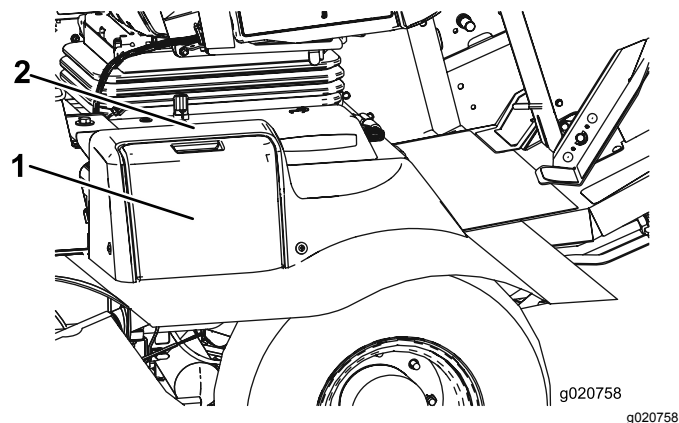

Figure 59
1. Open the battery cover on the side of the shroud (Figure 59).
**Note:** Press down on the flat surface above the battery cover to ease the removal of the cover (Figure 59).